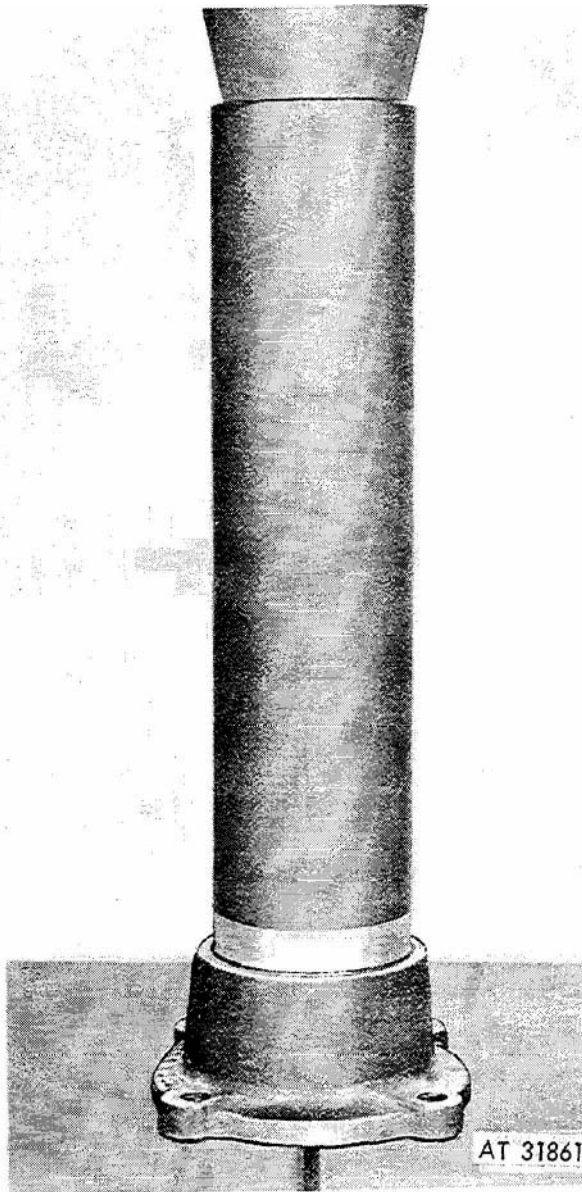

Figure 3-65. Pressing input shaft oil seal into retainer.
(5) Press seal (32) into retainer (29) as shown in figure 3-65.